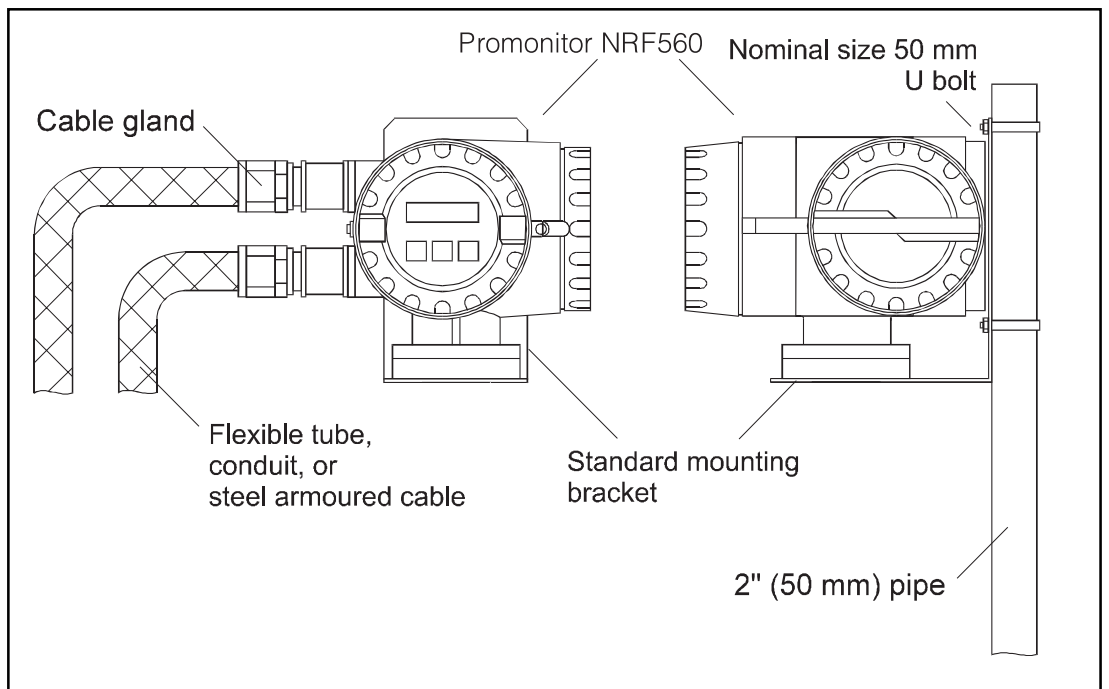

Fig. 5:
- Mounting on a 2" (50mm) pipe (see Fig. 5)